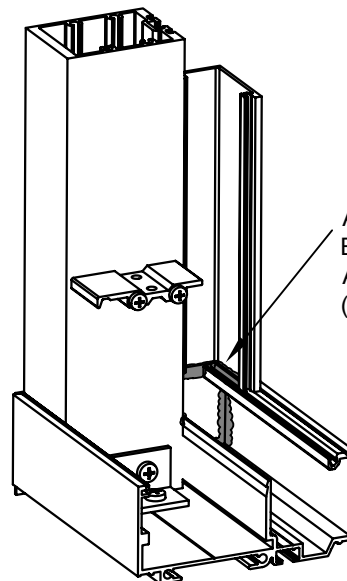

FIGURE 5
- STEP F:** Once jamb adaptor has been installed, apply sealant at the joint of the jamb adaptor and glazing reglet of the receptor at the head and sill conditions. (Figure 5)